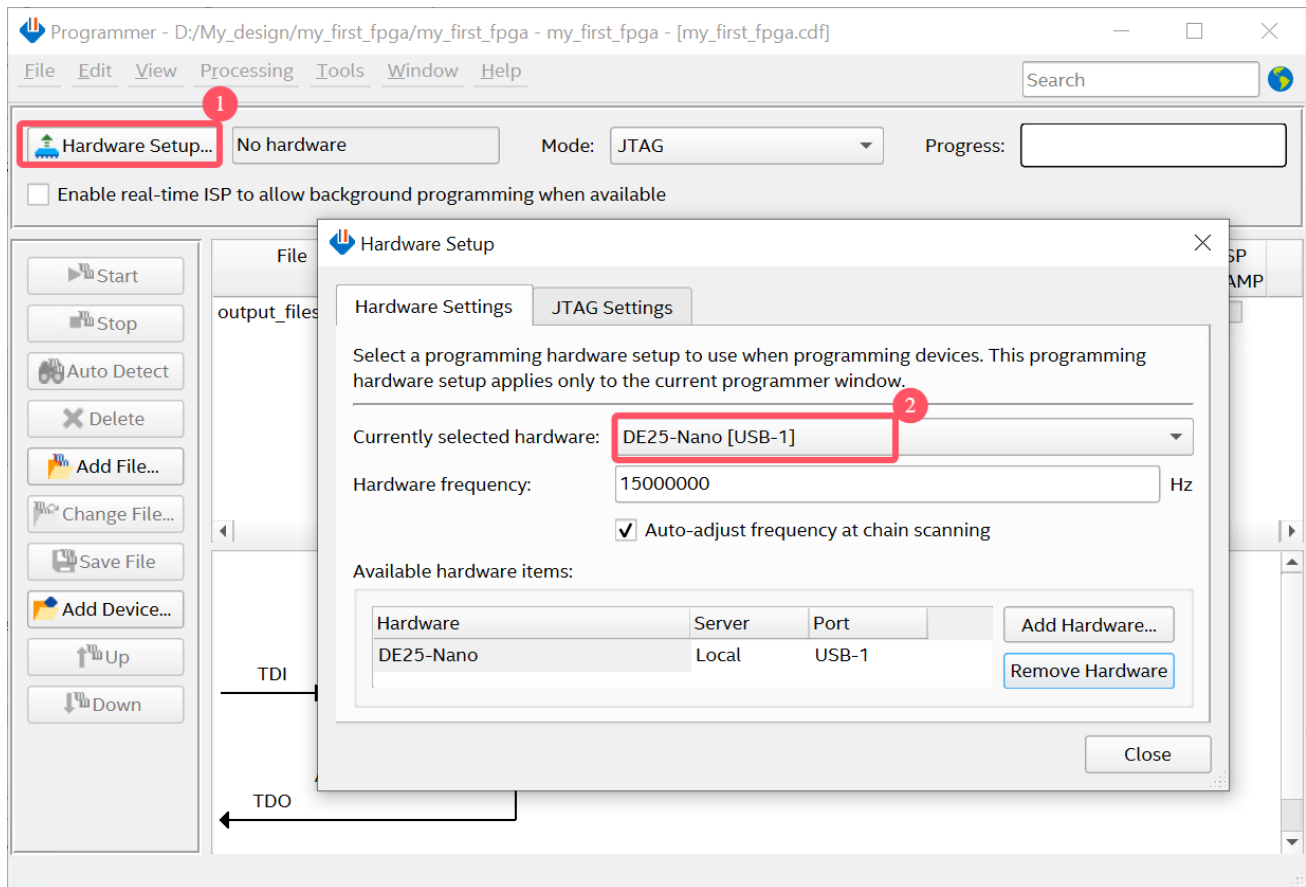

Figure 4-5 Hardware Setup
4. Select **DE25-Nano[USB-1]** under **Currently selected hardware**, and click **Close** as shown in **Figure 4-5**.